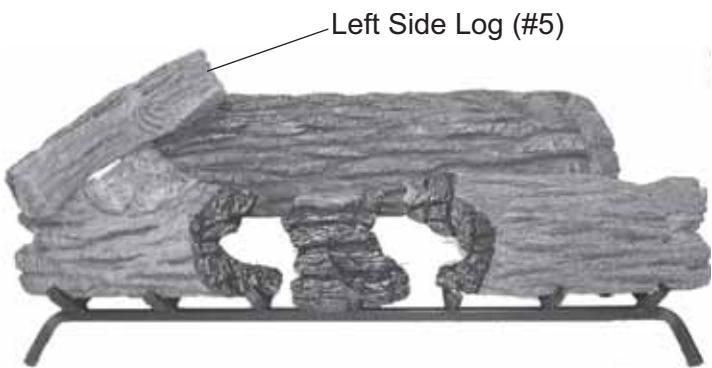

Figure 40 - Installing Left Side Log (#5)
6. Install left side log #5. See *Figure 40*.